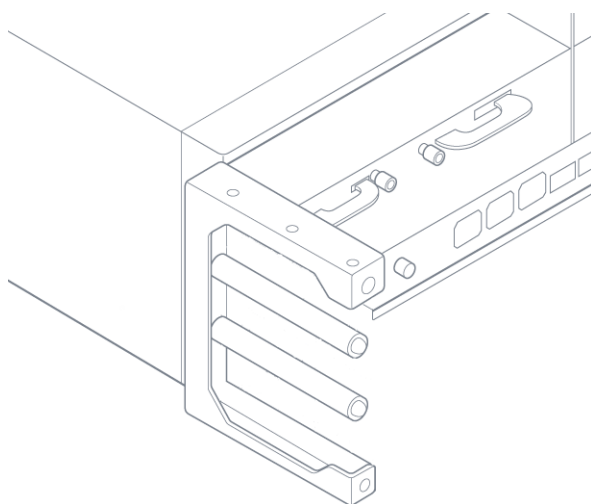

Figure 3-7: Cable Management Sides
2. Attach the cable management sides to the left and right of the chassis. Attach two screws on each side of the chassis as shown in Figure 3-7 on page 62 for the left side.